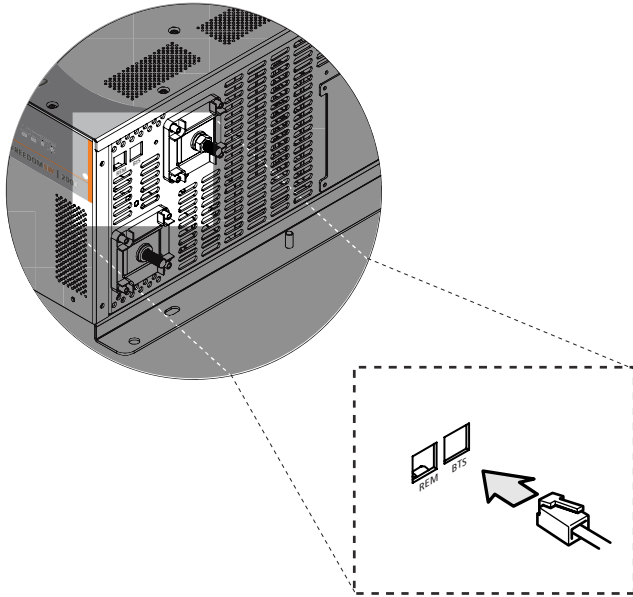

Figure 8 Connecting the BTS Cable to BTS Jack
9. Route the sensor cable to the inverter/charger and plug it into the BTS jack, as shown in Figure 8. Secure the cable along its length.
6. Route the sensor cable to the inverter/charger and plug it into the Battery Temp. jack, as shown in Figure 8. Secure the cable along its length.